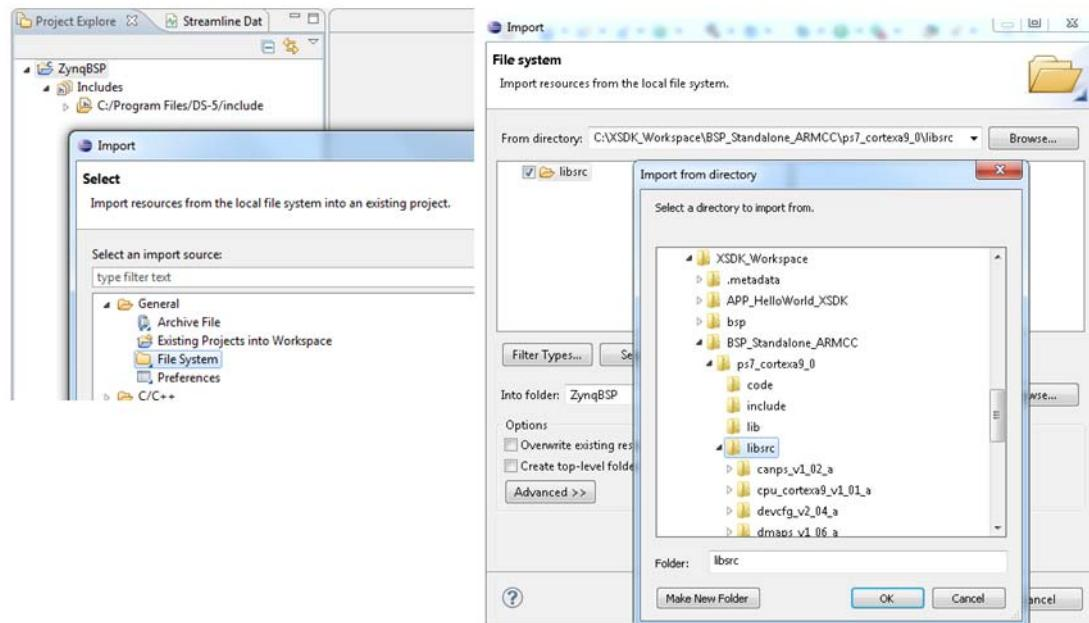

Figure 24: Importing the BSP Library Source
- d. Right-click the Zynq device BSP library project and import the Xilinx SDK-generated (ARMCC) BSP source tree, specifically, the directory tree below `libsrv`, as shown in Figure 24, below.